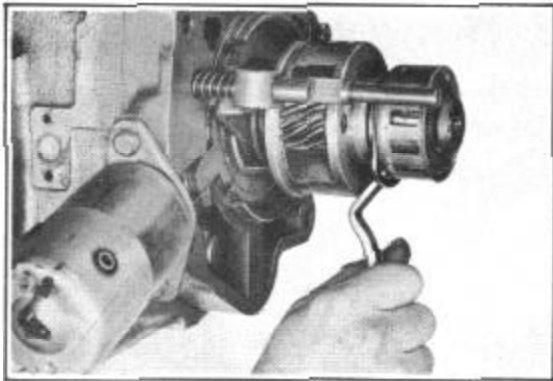

FIGURE 15
5. Remove the "U" clip located between the free wheeling cam and pinion cage and separate these units, Figure 15.